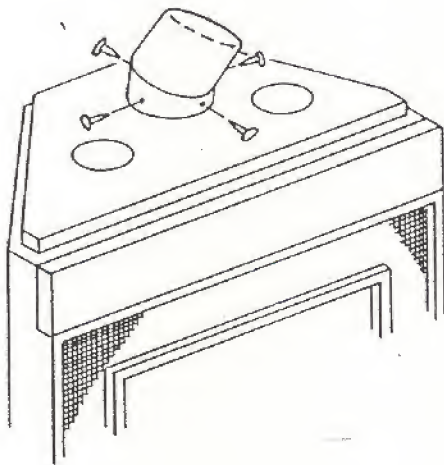

Figure 12
5. If offset is to be used directly off top of fireplace, it must be locked in desired position with four size 10 sheet metal screws provided. Drill four .125 diameter holes in fireplace collar using pre-drilled offset holes as a template. See Figure 12.